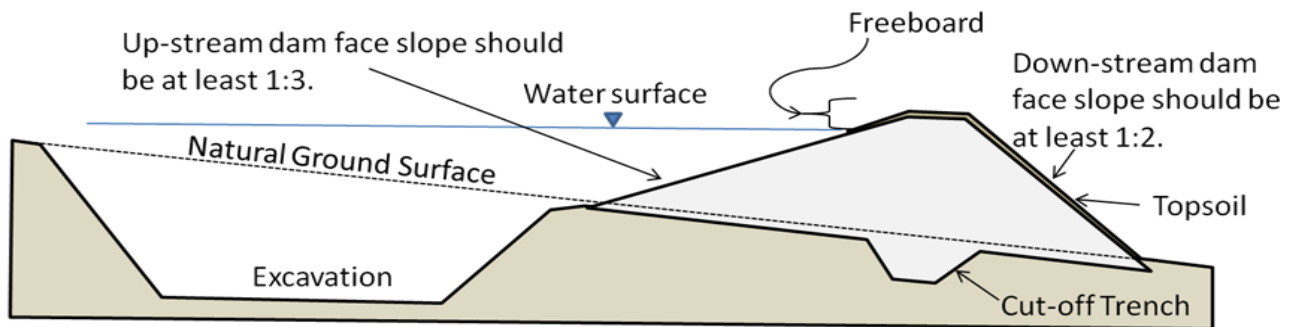

Figure 1. Example cut –away view of dam and pond excavation.
- A cut-off trench should be excavated the length of the dam and be a minimum of 1 foot deep and 8 feet wide and may include an impervious liner (Figure 1).
- The dam should be designed and built with slopes of at least 1:2 for the downstream face and 1:3 for the upstream face (Figure 1).
- Use the saved top soil, from clearing for the dam, on the downstream face of the dam and grass seed soon after construction to avoid excessive erosion (Figure 1).